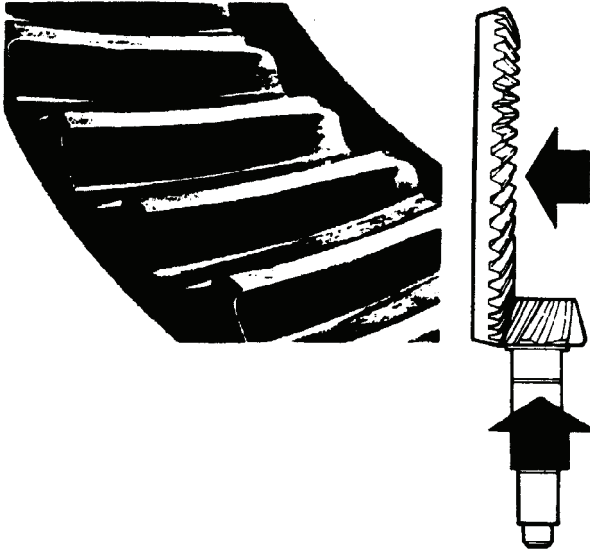

Figure 78.
- (1) A high contact indicates pinion is too far out. Set the pinion to the correct depth by increasing thickness of shim between pinion inner bearing cup and carrier. Refer to Figure 78.